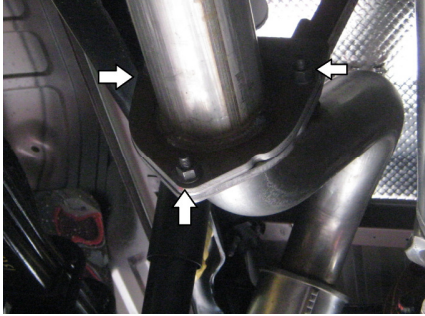

Figure 5
2. Loosen the three (3) nuts securing the extension pipe flange to the over-axle pipe. **Refer to Figure 5.**